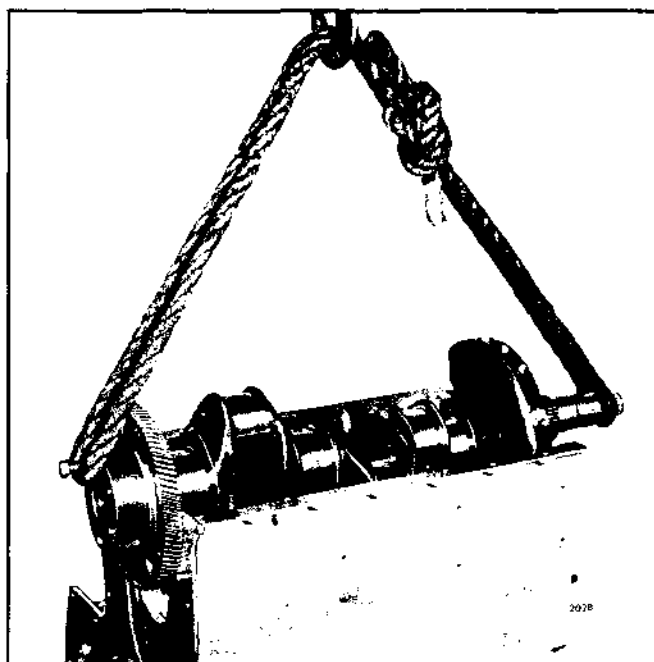

Fig. 3 - Lifting or Lowering Crankshaft from/ into Cylinder Block
19. Remove the crankshaft, including the timing gear (Fig. 3).